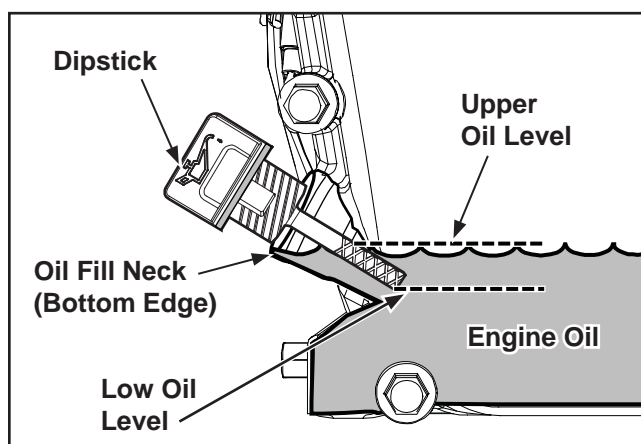

Figure 6-5. Dipstick Oil Level Check.
3. **Checking oil level with a dipstick.** Unscrew and remove the dipstick; wipe off oil. Reinsert the dipstick into the oil fill tube and rest the dipstick on the oil fill tube. Turn it counterclockwise until the cap drops down to the lowest point of the thread leads. **Do not** thread the dipstick cap into the tube. See Figure 6-5.
4. If the level is low, add oil of the proper type (Refer to Oil Type) to the correct level. Always check the level before adding more oil. See Figures 6-5 and 6-6.